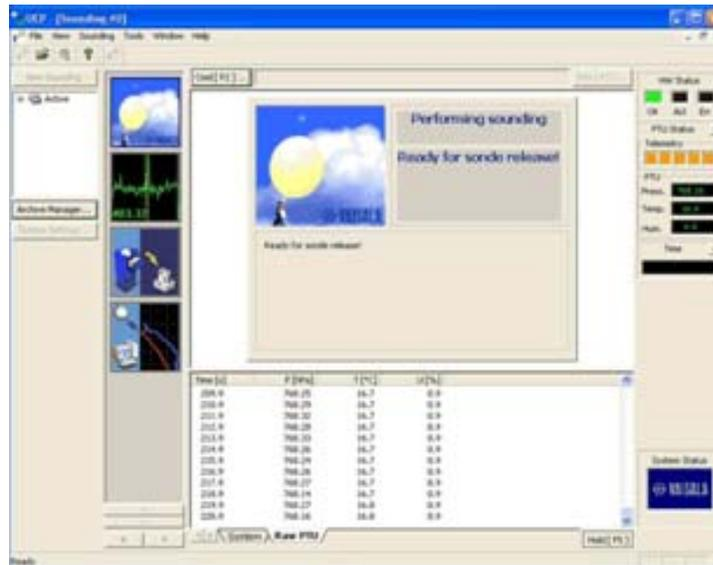

Figure 14
- 15) When the screen says, “Ready for sonde release” (see Figure 14), open the chamber door on the GC25 Ground Check Set and carefully remove the radiosonde from the GC25. **Be sure to close the chamber door securely.**